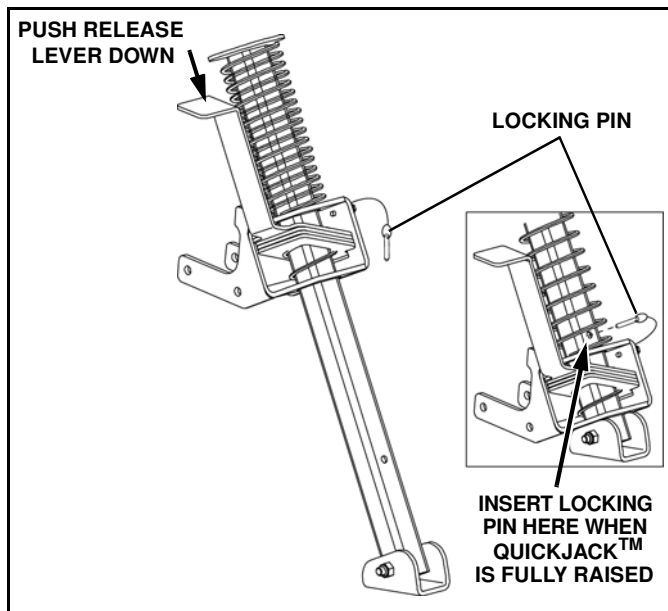

Figure 1-25
34. Raise QuickJack™ foot by pushing down on its release lever. Insert the locking pin in the QuickJack™ tube to prevent the jack from dropping during transport or plowing operations. (See Figure 1-25).